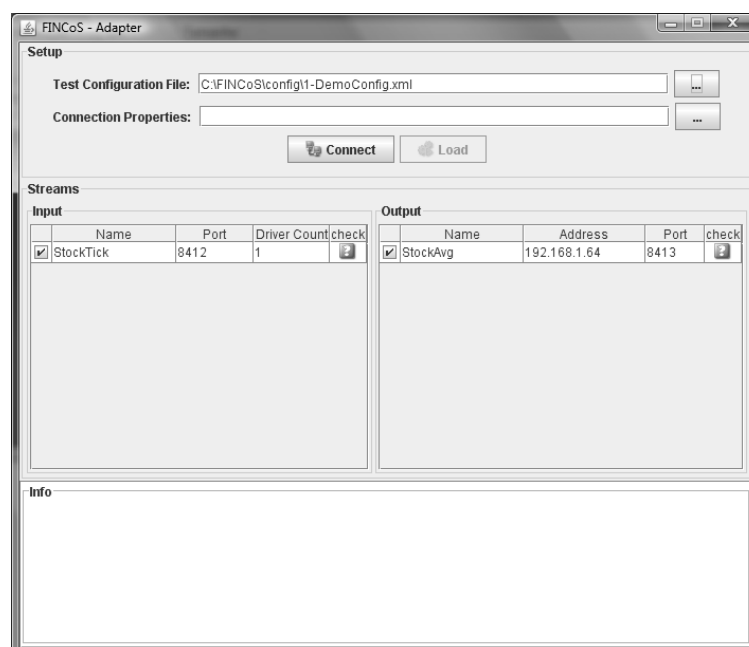

Figure 3.2: Adapter application after opening test setup file
1. **Load a test configuration file** – in this step, you must inform the path of a configuration file, previously created with the Controller application, containing the setup of a test. At that moment, the Adapter will get and display the list of input and output streams which are intended to be used in the test, as shown in figure 3.2;